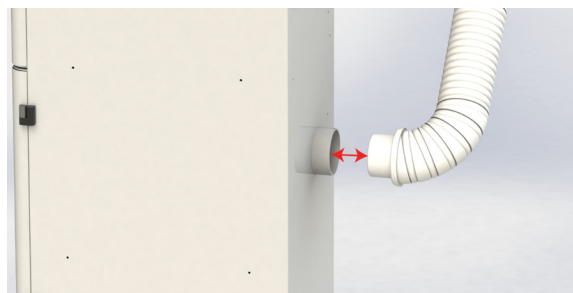

Fig. 8
- D. Slip the other end of the 2.5" white hose into the inlet port on the back of your StoneVac Mill Sync (Fig. 8)